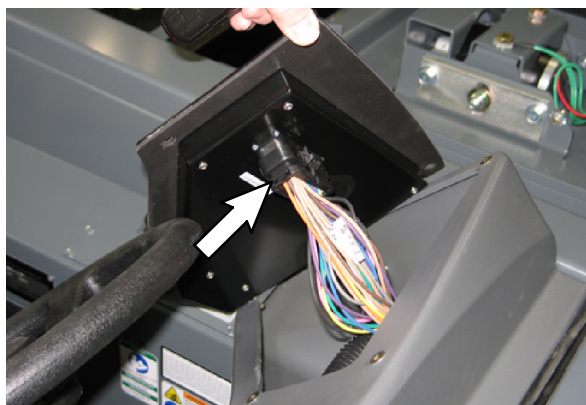

FIG. 2
4. Carefully lift the panel assembly from the dash and disconnect the main wire harness from the panel assembly. Refer to Fig. 2.
8. Reconnect the main wire harness to the panel assembly. Refer to Fig. 2.